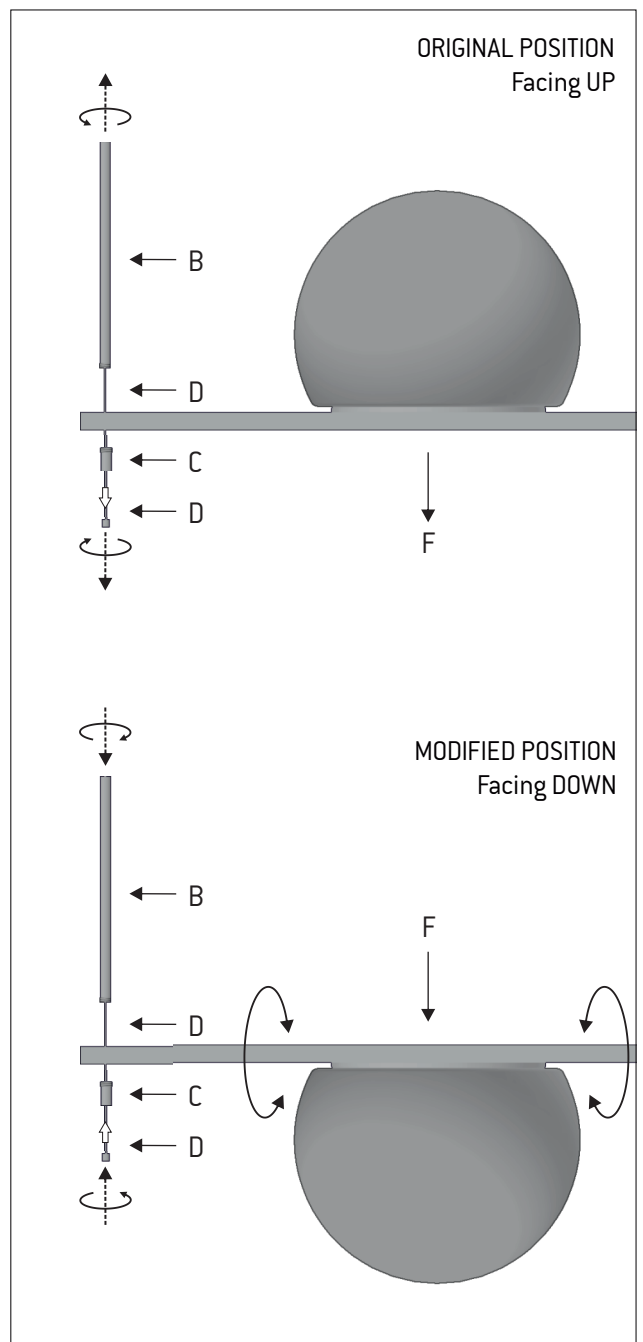

Figure 3
Unscrew the pieces (B and C) that make up the arm (A) to release the steel cable (D). Pull the steel cable from the bottom of the piece (C) until it is completely removed. Flip the lamp (F) to place the shades facing down. Screw back the pieces (B and C), the stem (B) should be on the opposite side of the shade. Insert the steel cable through the piece (C) until it appears at the end of the stem (B). Carry out the same action at both ends of the lamp. Figure 3.